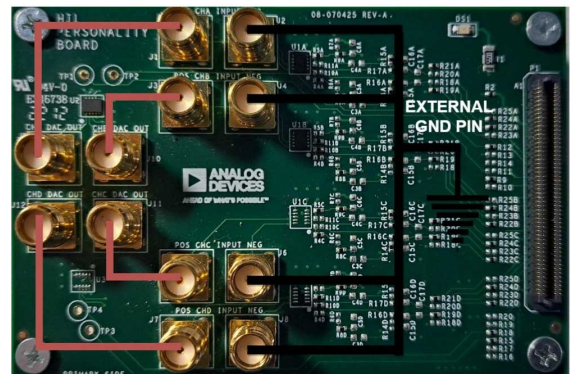

Figure 14. AFE Board I/O Setup
7. Connect the EVAL-CN0584-EBZ analog I/O ports as shown in Figure 14 using the SMA cables and terminations.